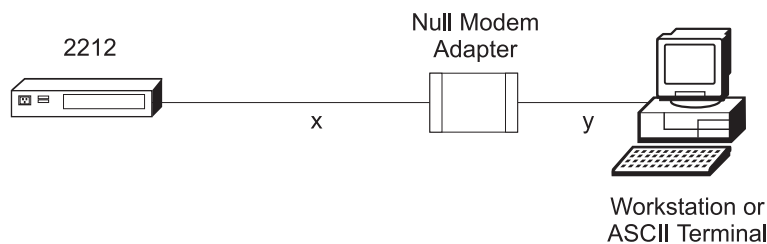
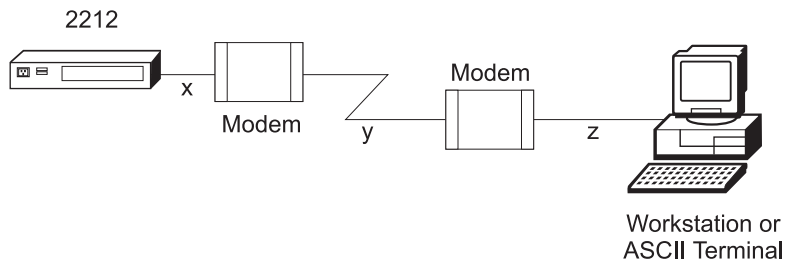

Figure 3-1. Local Terminal Connection to the EIA-232 Service Port
Figure 3-2. Remote Terminal Connection to the EIA-232 Service Port
- Remote dial-in (using telephone lines) through a modem attached to the EIA-232 service port using an ASCII or Serial Line Internet Protocol (SLIP) connection. See Figure 3-2 on page 3-2. "Modem Settings" on page 3-2 lists the modems that have been tested for use with the 2212.
- Locally through a null-modem adapter and serial cables supplied with this product that are attached to the EIA-232 service port using an ASCII or SLIP connection. See Figure 3-1.
Attach an ASCII terminal or emulator (with the appropriate emulation software) to provide local or remote access to the 2212. When locally attaching a terminal to the 2212 service port, the speed (baud rate) configured for the service port must match the speed of the connected terminal (x and y in Figure 3-1 on page 3-1). When connecting a 2212 to a remote terminal by two modems connected by telephone lines (x, y and z in Figure 3-2 on page 3-2), the following rules must be followed: